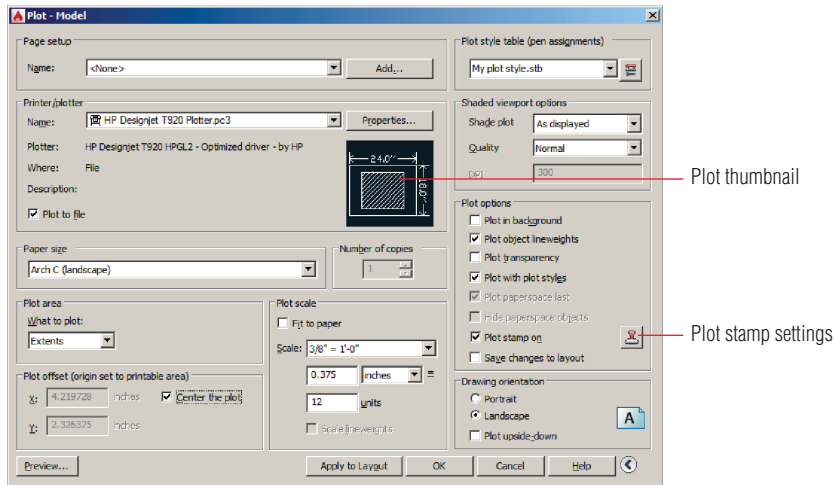
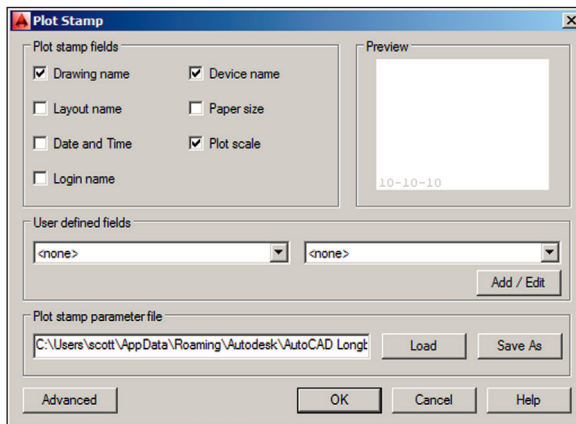

FIGURE 14.15 Configuring the Plot dialog box for output
FIGURE 14.16 Configuring the Plot Stamp feature
4. Type PLOT and press Enter. Select HP DesignJet T920 Plotter .pc3 from the Name drop-down menu (no system printers appear). Select Arch C (landscape) in the Paper Size area and Extents in the What To Plot drop-down menu. Select Center The Plot in the Plot Offset area, deselect Fit To Paper in the Plot Scale area, and select 3/8" = 1'-0" from the Scale drop-down menu. Click the More Options button to expand the dialog box. Select My plot style.stb in the Plot Style Table area. Select Plot Stamp On in the Plot Options area (see Figure 14.15).
5. Check Plot Stamp On and then click the Plot Stamp Settings button, as shown in Figure 14.15. Select Drawing Name, Device Name, and Plot Scale in the Plot Stamp dialog box that appears (see Figure 14.16). Click OK.